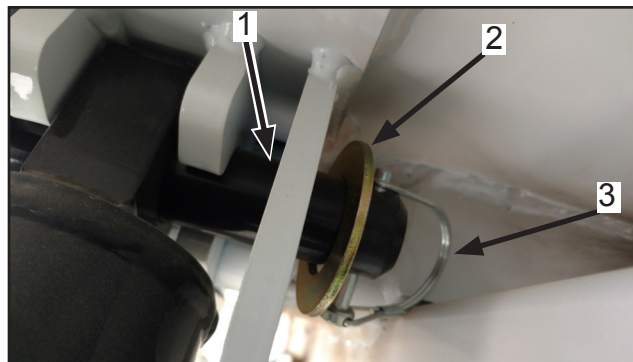

Figure 2
3. Inspect if the cylinder pin (Figure 2, Item 1) and washer (Figure 2, Item 2) are installed for the upper cylinder assembly. (Inspect **both** service lift cylinder assemblies.)
4. Remove the round snapper pin (Figure 2, Item 3) from the upper pin on the body lift cylinder. Discard the snapper pin.